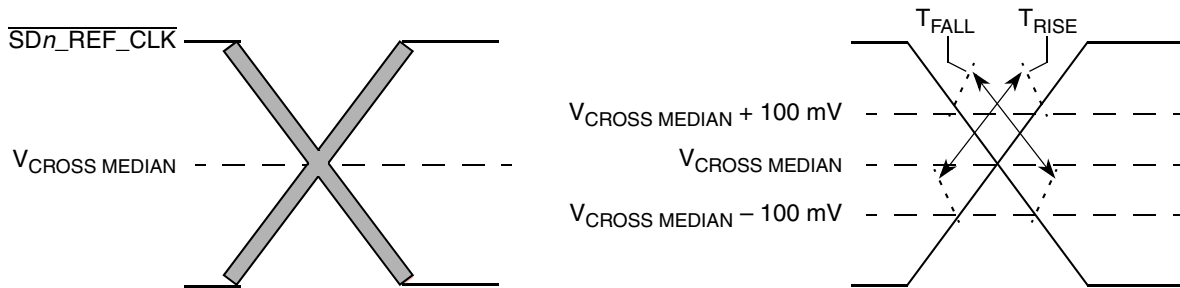

Figure 38. Single-Ended Measurement Points for Rise and Fall Time Matching
6. Matching applies to rising edge for SD\_REF\_CLK $n$  and falling edge rate for  $\overline{\text{SD\_REF\_CLK}}_n$ . It is measured using a 200 mV window centered on the median cross point where SD\_REF\_CLK $n$  rising meets  $\overline{\text{SD\_REF\_CLK}}_n$  falling. The median cross point is used to calculate the voltage thresholds that the oscilloscope uses for the edge rate calculations. The rise edge rate of SD\_REF\_CLK $n$  must be compared to the fall edge rate of  $\overline{\text{SD\_REF\_CLK}}_n$ , the maximum allowed difference should not exceed 20% of the slowest edge rate. See Figure 38.